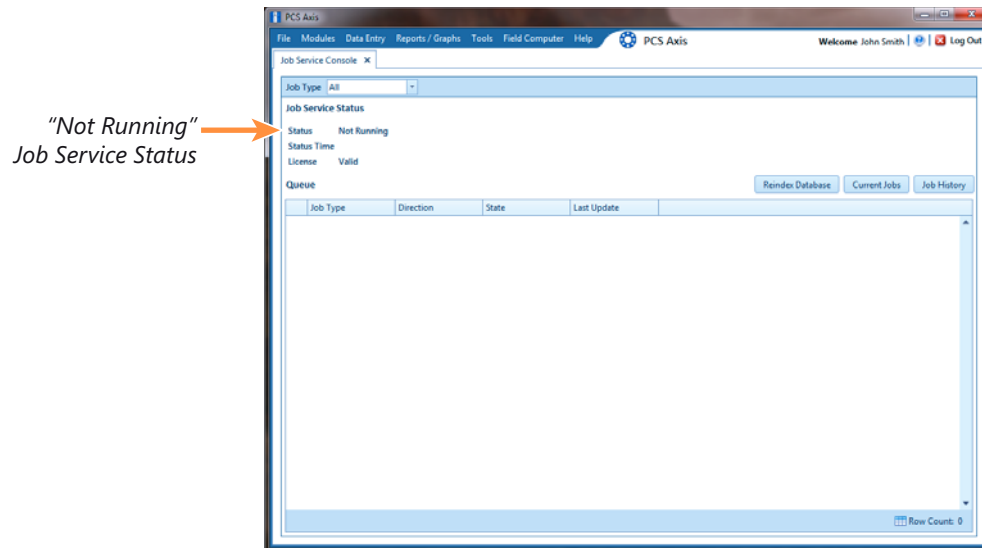

Figure 11-3. Job Service Status
If the message *Not Running* displays in the *Status* field of the Job Service Console as shown in the following figure (Figure 11-3), use the procedure in this section to restart the PCS Axis Job Service. PCS Axis Job Service monitors the job queue, initiating jobs as they become available.
- c In PCS Axis, verify the message *Running* displays in the *Status* field of the Job Service Console (Figure 11-3, page 523).